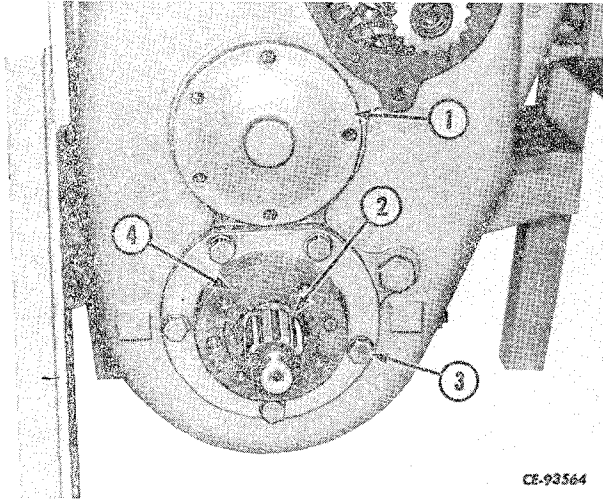

Figure 4-24
Remove cap screws that secure 2nd and 3rd speed cover (1, Fig. 4-24) to housing. Remove cover. Remove retaining ring (2) from output shaft. Remove cap screws (3) that secure front bearing retainer cap (4) to housing. Remove cap.